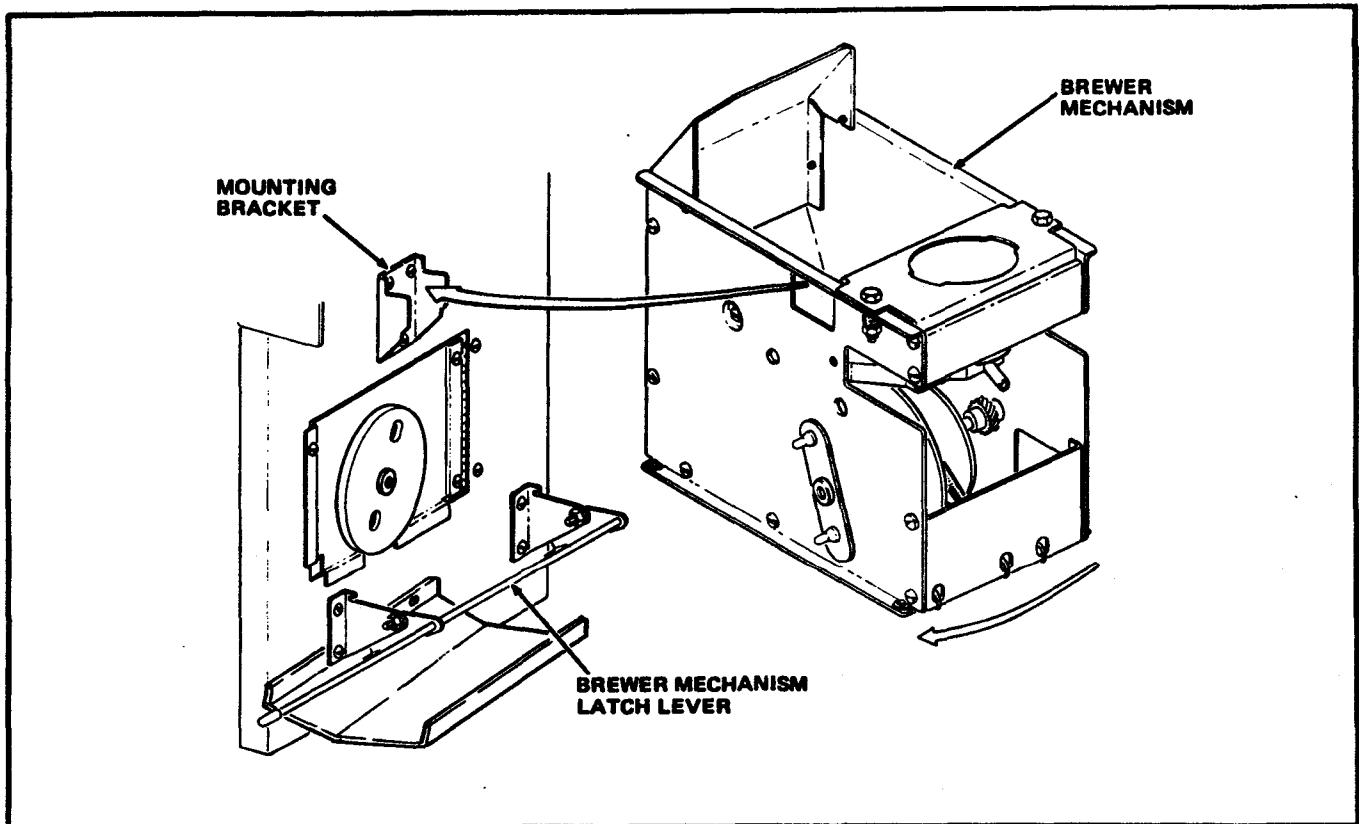

Figure 3-21. Brewer Mechanism Latch Lever
4. Lift upward on the Brewer Mechanism Latch Lever to release the Brewer Mechanism. See Figure 3-21.